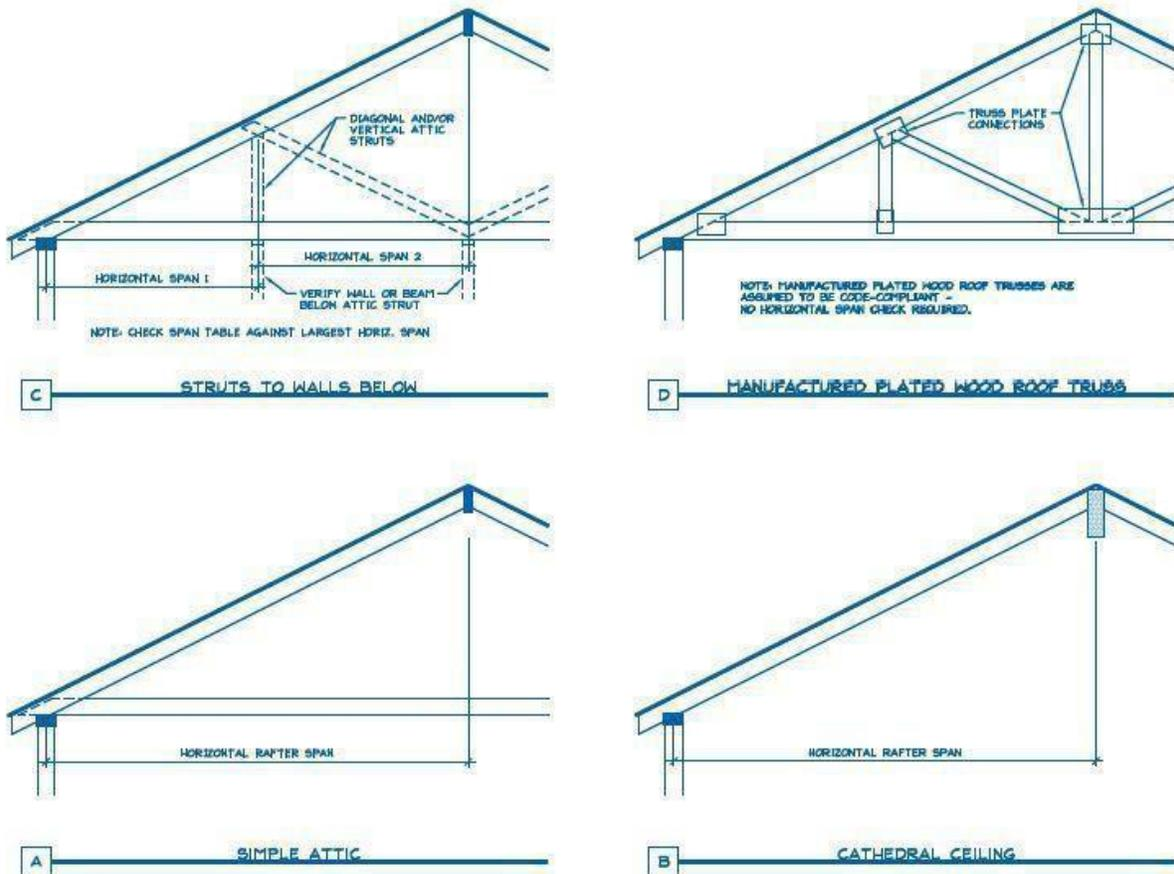

Figure 3 Definition of Rafter Horizontal Span
- 1) Anchor fastener data (see Figure 3):